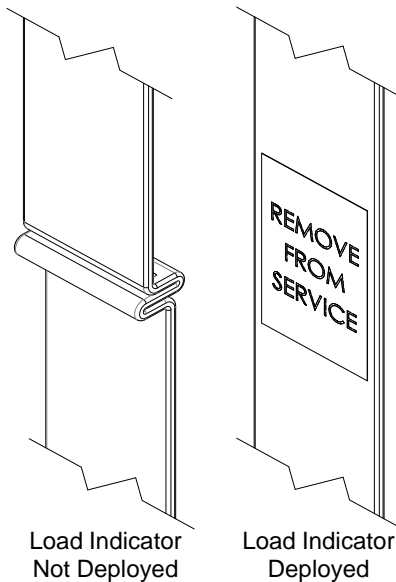

Figure 11
1. Prior to each use, the worker must inspect the Micro-Loc™ Self-Retracting Lanyard for any physical damage, wear, corrosion, or malfunctioning parts. Verify that the load indicator is not deployed by looking to see if the red tag with the words “REMOVE FROM SERVICE” is exposed (Figure 11). Once the load indicator has been deployed, the SRL must be removed from service as the SRL is not repairable.